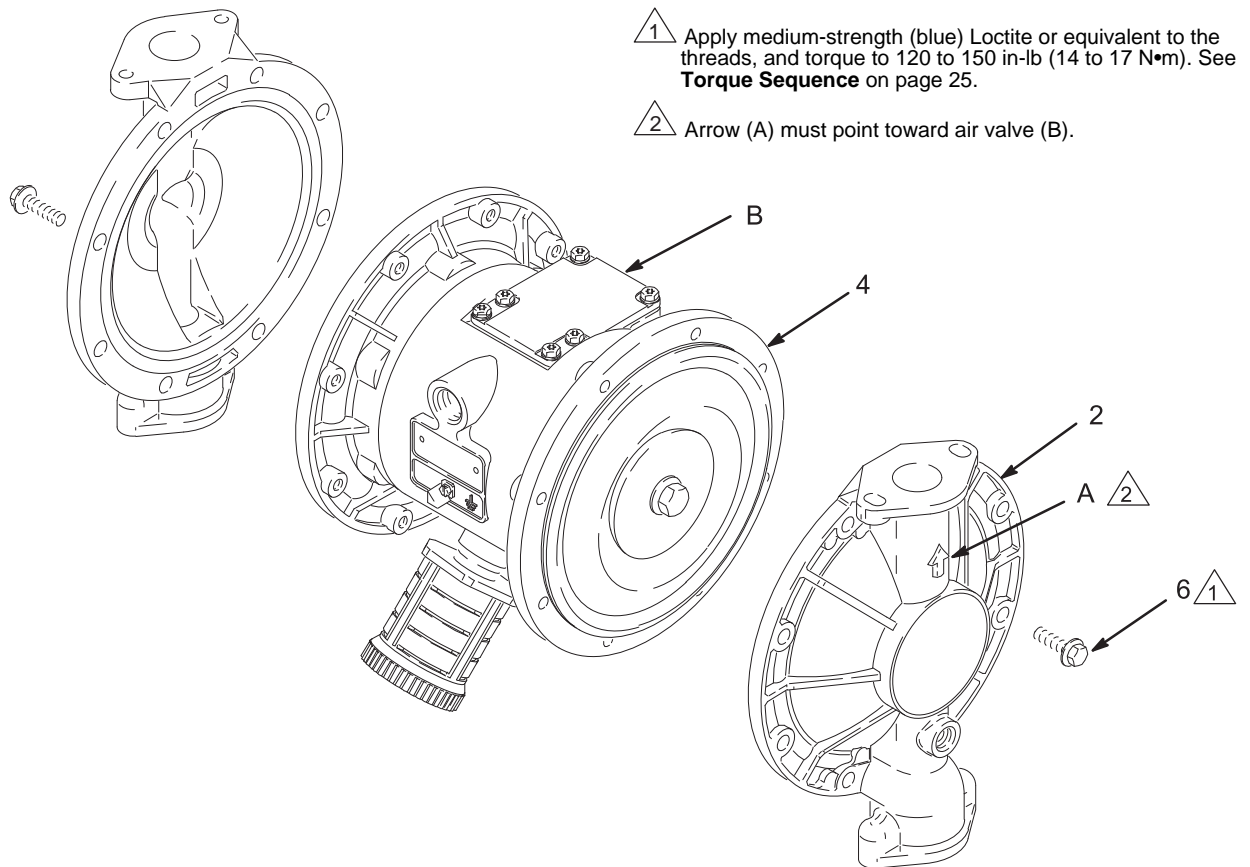
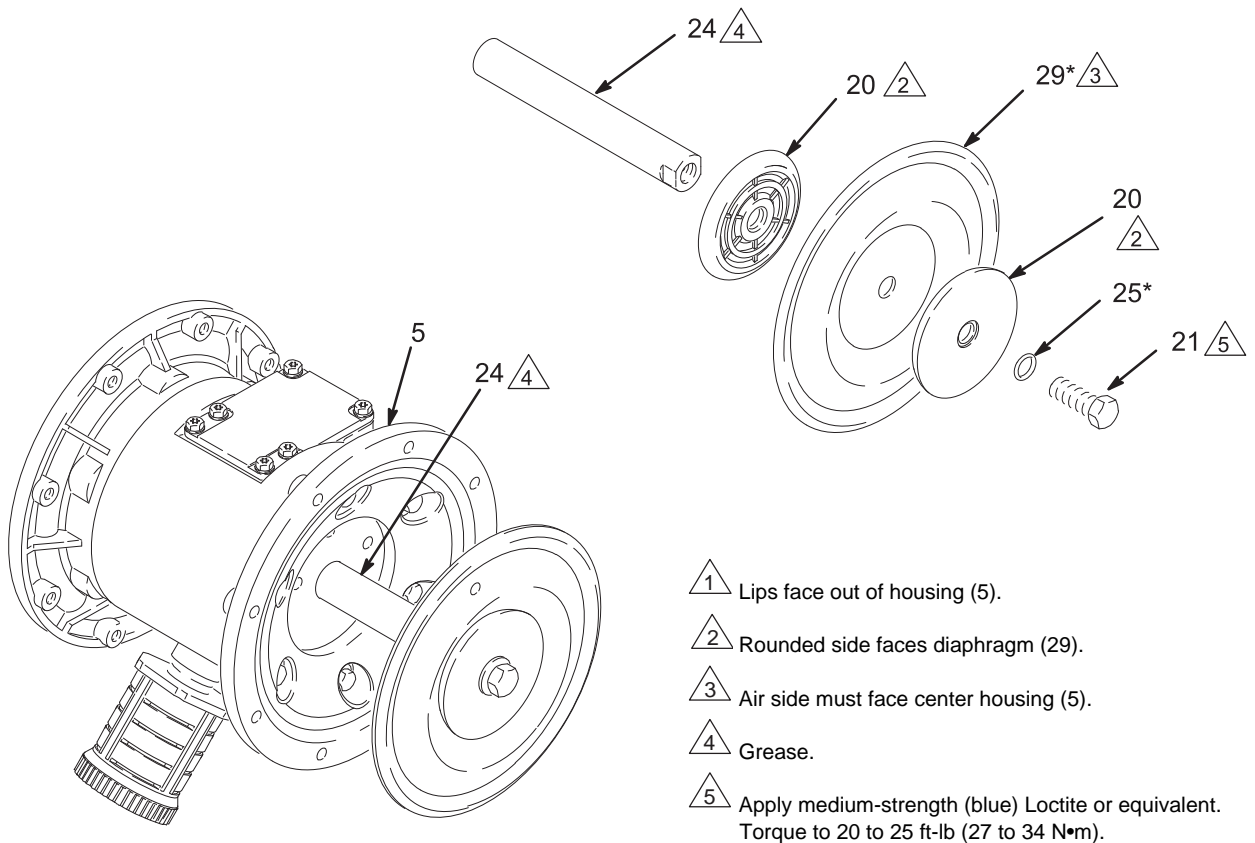

Fig. 11
Fig. 12
3. Using a 10 mm socket wrench, remove the screws (6) holding the fluid covers (2) to the air covers (4). Pull the fluid covers (2) off the pump. See **Fig. 11**.
4. Loosen but do not remove the diaphragm shaft bolts (21), using a 15 mm socket wrench on both bolts.
5. Unscrew one bolt from the diaphragm shaft (24) and remove the o-ring (25), fluid side diaphragm plate (20), diaphragm (29), and air side diaphragm plate (20). See **Fig. 12**.
6. Pull the other diaphragm assembly and the diaphragm shaft (24) out of the center housing (5). Remove the bolt (21) from the shaft and disassemble the remaining diaphragm assembly.
7. Inspect the diaphragm shaft (24) for wear or scratches. If it is damaged, inspect the bearings (23) in place. If the bearings are damaged, refer to page 21.
8. Reach into the center housing (5) with an o-ring pick and hook the u-cup packings (22), then pull them out of the housing. This can be done with the bearings (23) in place.
- c. Install the diaphragm (29*) on the bolt. Make certain the side marked AIR SIDE faces the center housing (5).
- d. Install the air side diaphragm plate (20) so the rounded side faces the diaphragm (29).
- e. Apply medium-strength (blue) Loctite or equivalent to the bolt (21) threads. Screw the bolt (21) into the shaft (24) hand tight.
3. Grease the length and ends of the diaphragm shaft (24), and slide it through the housing (5).
5. Hold one shaft bolt (21) with a wrench and torque the other bolt to 20 to 25 ft-lb (27 to 34 N•m) at 100 rpm maximum.
6. Align the fluid covers (2) and the center housing (5) so the arrows (A) on the covers face the same direction as the air valve (B). Apply medium-strength (blue) Loctite or equivalent to the threads of the screws (6), and secure the covers with the screws (6) hand tight. See **Fig. 11**. Using a 10 mm socket wrench, torque the screws oppositely and evenly to 120 to 150 in-lb (14 to 17 N•m). See **Torque Sequence** on page 25.
1. Install the shaft u-cup packings (22*) so the lips face out of the housing (5). Lubricate the packings. See **Fig. 12**.
2. Install the diaphragm assembly on one end of the shaft (24) as follows:
- a. Install the o-ring (25*) on the shaft bolt (21).
- b. Install the fluid side diaphragm plate (20) on the bolt so the rounded side faces the diaphragm (29).
8. If you removed the diaphragm shaft bearings (23), reach into the center housing (5) with an o-ring pick and hook the u-cup packings (22), then pull them out of the housing. Inspect the packings. See **Fig. 12**.